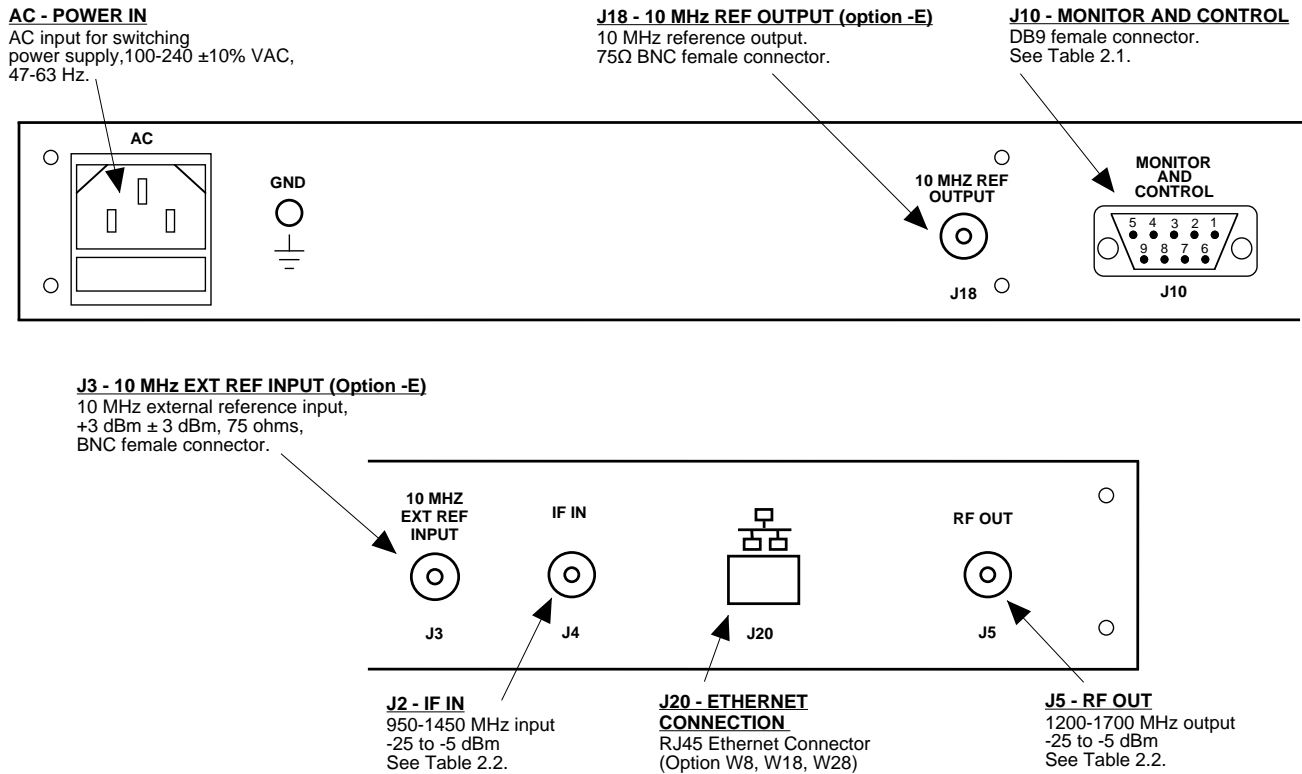

FIGURE 2.2 2083-1012 Rear Panel I/Os
2.2 Rear Panel Input/Output Signals - Figure 2.2 shows the input and output connectors on the rear panel.
1. Connect a -25 dBm to -5 dBm signal to IF IN, J4 (Figure 2.2)